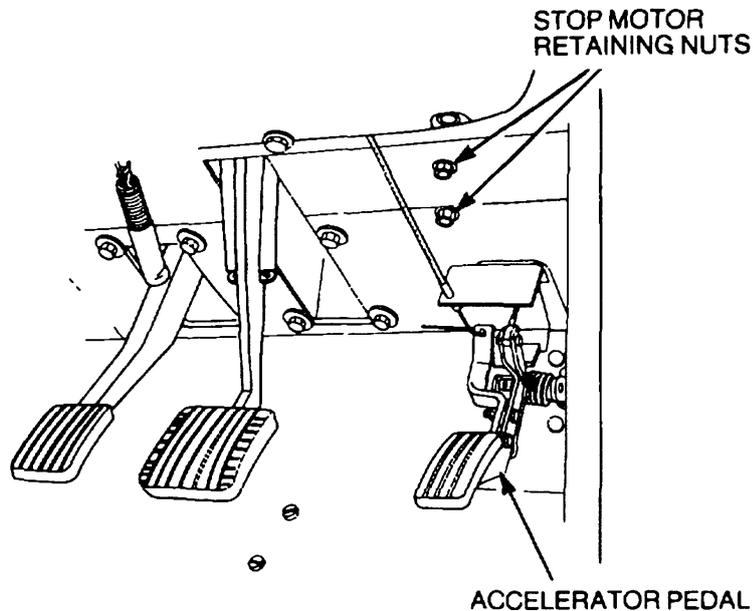

Figure 36 Stop Motor Removal
- f. Remove the locknuts securing the stop motor to the firewall (Figure 36).